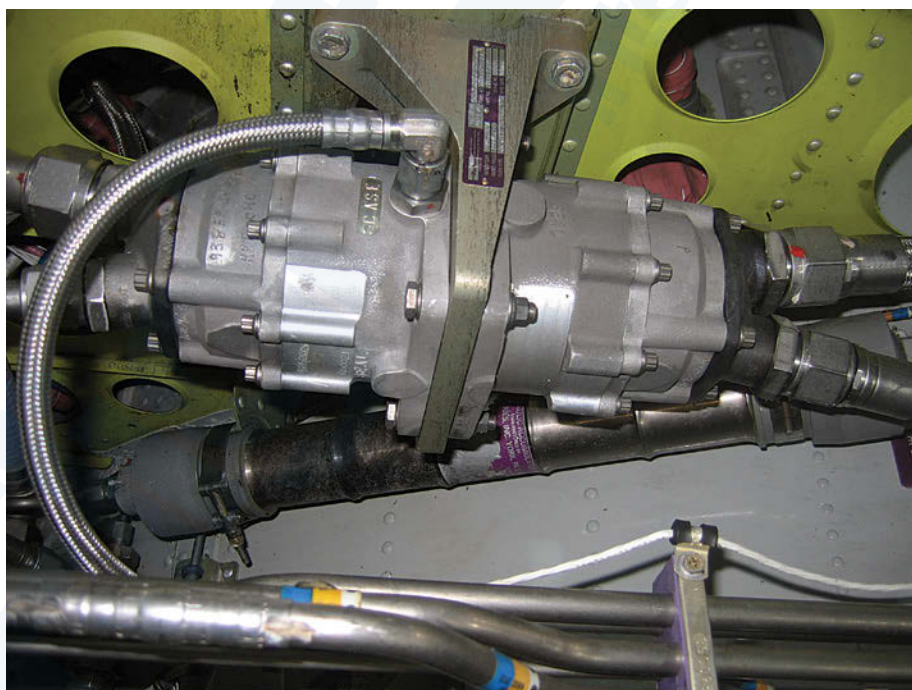

Figure 29-19. Power Transfer Unit (PTU)
- Figure 29-19. Power Transfer Unit (PTU).